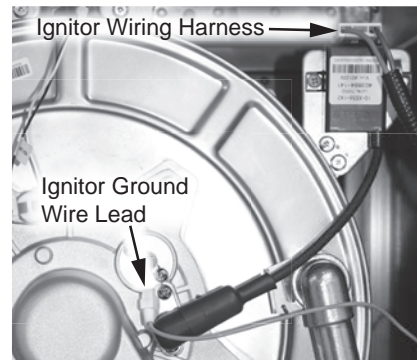

Figure 53 - Ignitor wiring harness location
- 4 Locate the ignitor wiring harness and ignitor ground connection. See Figure 53. Disconnect them and move the wires aside.
- 5 The wiring is held in place along the right side of the cabinet by three (3) plastic organizers. Remove the wiring from these keepers.
- 6 Locate and remove the two (2) screws securing the grounding wires to the grounding plate. See Figure 53. Do not remove the third ground connection that is not part of the wiring assembly. Place screws aside in a safe place for reinstallation.